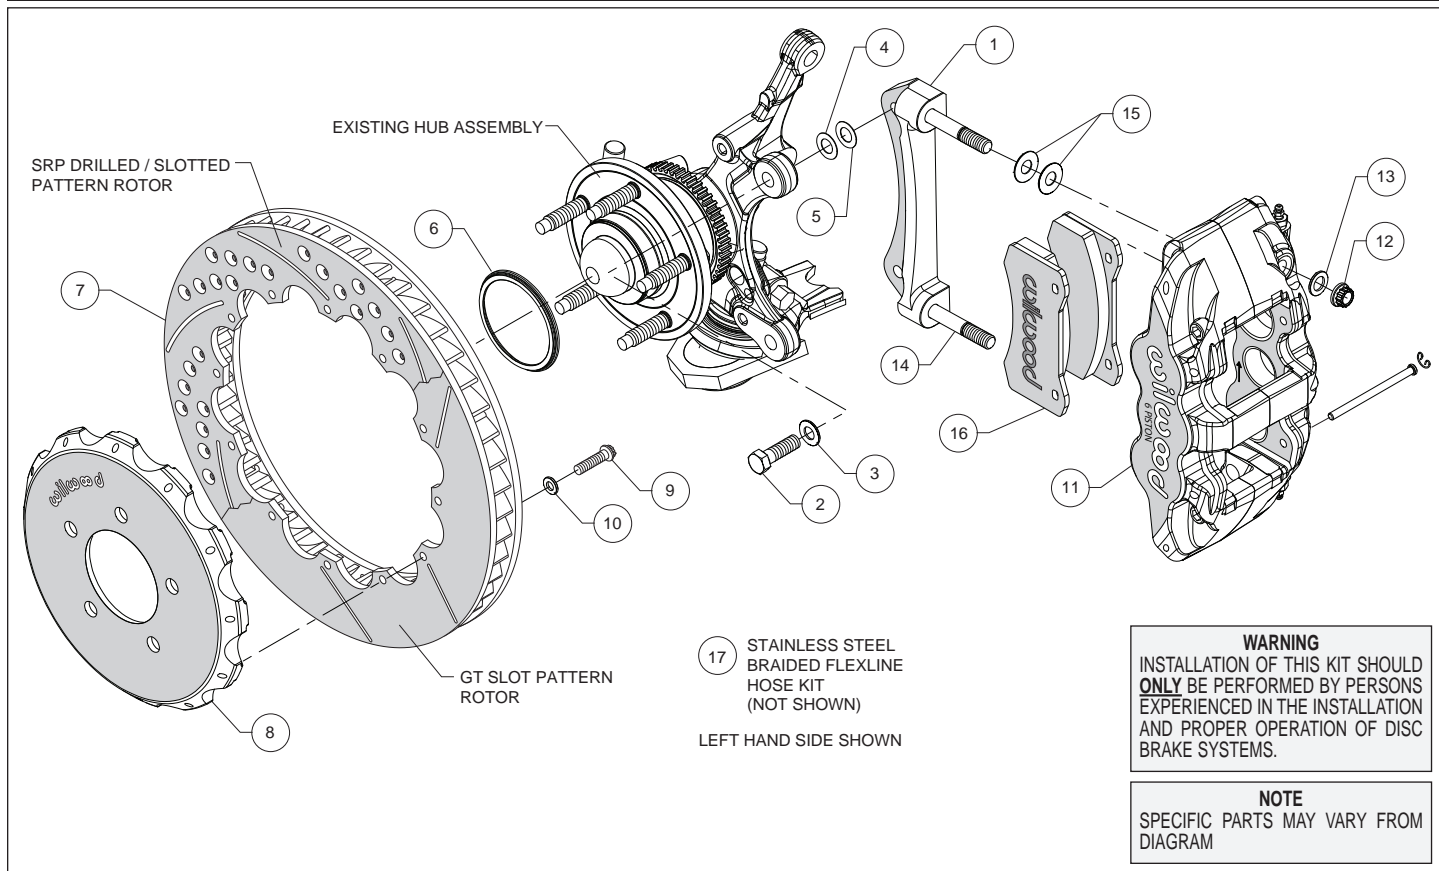
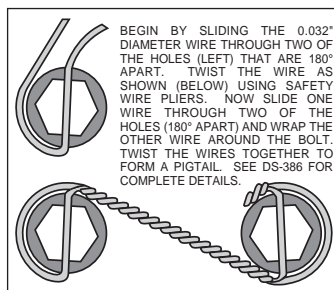

Figure 1. Typical Installation Configuration
Figure 4. Safety Wire Diagram
Assembly Instructions (numbers in parenthesis refer to the parts list and Figure 1 on the preceding pages):
- The caliper mount bracket (1) should initially be installed with clean, dry threads on the mounting bolts. Orient the bracket, as shown in Figure 1 and Photo 1, and install using bolts (2) and washers (3). Initially place one .033" thick shim (4) on each bolt between the bracket and upright, Figure 1. Temporarily tighten the mounting bolts. **NOTE:** The bracket must fit squarely against the mount bosses on the upright. Inspect for interference from casting irregularities, machining ridges, burrs, etc. Later, after the caliper alignment has been checked, the mount bolts will be secured using red *Loctite*® 271.
- Orient the rotor (7) and the hat (8) as shown in Figure 1 and Photo 2. Attach rotor to hat using bolts (9) and washers (10). Using an alternating sequence, apply red *Loctite*® 271 to the threads, and torque to 155 in-lbs. For an added measure of security, the bolts may be safety wired using standard 0.032 inch diameter stainless steel safety wire as shown in Figure 4. Refer to Wilwood's data sheet DS-386 (available at www.wilwood.com/Pdf/DataSheets/ds386.pdf) for complete safety wire installation instructions.
- Slide the rotor registration adapter (6) onto the axle hub with the smaller O.D. facing toward the rotor/hat, Figure 1 and Photo 3.
- NOTE:** This kit contains distinct right and left hand calipers that must be mounted in a specific direction, as described below. Lubricate the caliper mounting studs (14) with lightweight oil.
Initially place two .030" thick shims (15) on each stud between the caliper and the bracket, as shown in Figure 1 and Photo 4. Mount the caliper (11) onto the bracket (1) using lock nuts (12) and washers (13), Figure 1. Temporarily tighten the lock nuts. Ensure that the caliper is mounted so the largest pistons are at the rotor exit end of the caliper, in relation to the direction of the rotor. View the rotor through the top opening of the caliper. The rotor should be centered in the caliper, Photo 5. If not, adjust by adding or subtracting shims (4 and/or 5) between the bracket and the upright. Always use the same amount of shims on each of the two mounting bolts.
- Remove the two pad retaining pins from the caliper (11) by carefully popping out the pin retaining clips and sliding out the pins. Insert the brake pads (16) into the caliper from the bottom, Figure 1 and Photo 6. With the friction material facing the rotor, secure the brake pads in place with the pad retaining pins and clips, Photo 7. Reinstall the caliper onto the caliper mounting bracket and temporarily tighten the lock nuts. Check that the top of the brake pad is flush with the outside diameter of the rotor, Photo 8. If not, adjust by adding or subtracting shims (15) between the caliper and the bracket. After the caliper pad height is set, torque the caliper lock nuts (12) to 47 ft-lb.